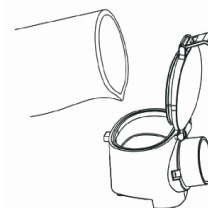

Fig.7
- Fill medicine into medicine tank. (Refer to Fig. 7)